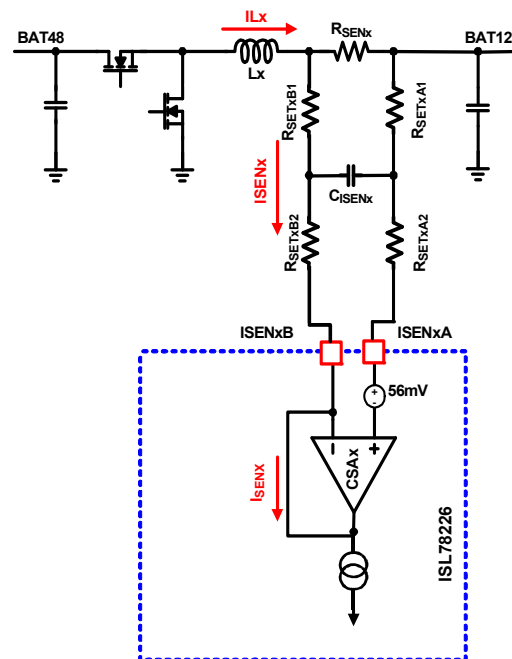

Figure 130. Current-Sensing Block Diagram for Individual Phase I_{SENx}
The ISL78224 peak current control architecture senses the inductor current of each phase continuously for fast response. A sense resistor (shunt) is placed in-series with the power inductor for each phase. The ISL78224 Current-Sense Amplifiers (CSA) continuously sense the respective inductor current (as shown in Figure 130) by sensing the voltage signal across the sense resistor R_{SENx} (where “x” indicates the specific phase number and same note applied throughout this document). The sensed current for each active phase is used for peak current mode control loop, phase current balance, individual phase cycle-by-cycle peak current limiting (OC1), individual phase overcurrent fault protection (OC2), averaged Constant Current Limit (CCL) control, Average Overcurrent Protection (AOCP), Diode Emulation (DE), and Phase Drop/Add control. The internal circuitry shown in Figure 130 represents a single phase and is repeated for each phase.
The recommended configuration of the RC network between the R_{SENx} and ISENxA/ISENB pins is shown in Figure 130. The current gain setting resistor, R_{SETxB} , is R_{SETxB1} plus R_{SETxB2} in Figure 130. That sum should be fixed at $1k\Omega$ for equal boost and buck current indications at I_{MON} .
Renesas recommends that $R_{SETxA} = R_{SETxB}$ and that all four resistors are as equal in value as standard values allow. Insert a capacitor, C_{ISENX} , between them as shown in Figure 130. This forms a symmetric noise filter for the small current-sense signals. The differential filtering time constant equals $(R_{SETxA1} + R_{BIASxB1}) * C_{ISENX}$. This time constant is typically selected in the range of tens of ns depending on the actual noise levels.